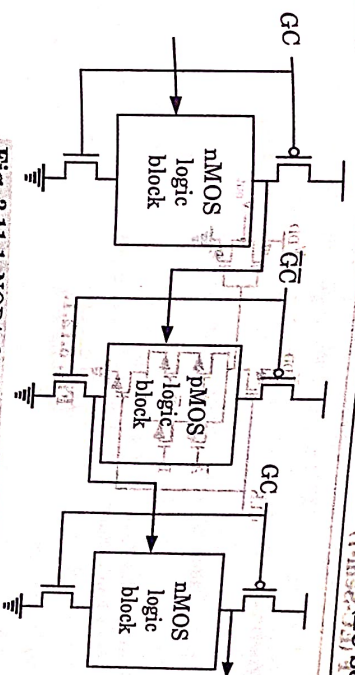

Fig. 3.11.1. NORA CMOS cascaded gates.
- The cascaded NORA gate structure is shown in Fig. 3.11.1.